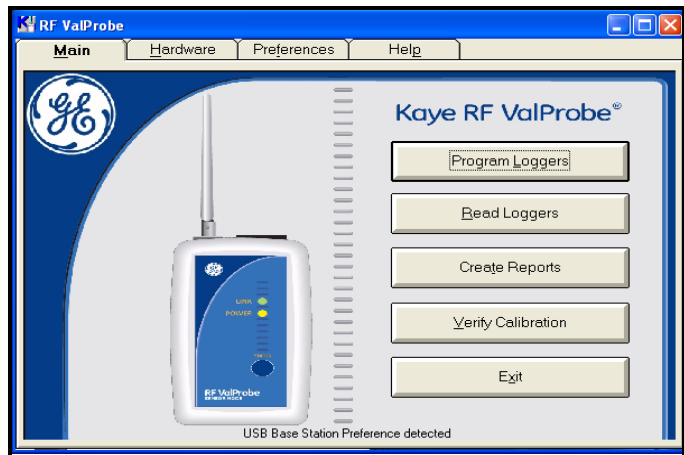

Figure 2-9: Kaye RF ValProbe Main Menu
3. On the File menu, click Exit to log out of the Password Maintenance utility. The RF ValProbe Main Menu appears, as shown in Figure 2-9 below.